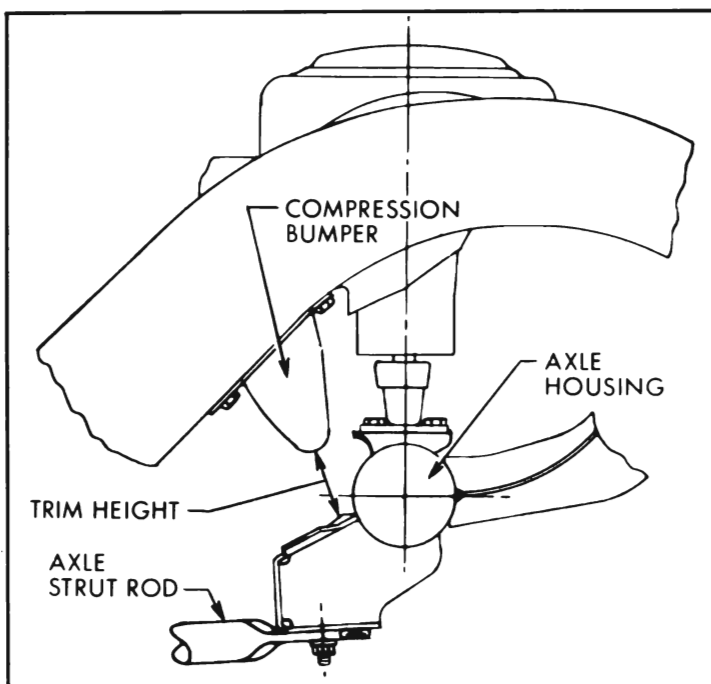

Figure 7-43—Air Ride Trim Height Measurement
6. Check the distance between the bottom of the compression bumper and the bumper bracket directly below the bumper. See Figure 7-43.